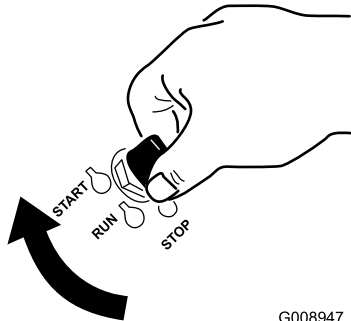

Figure 20
- Turn the ignition key to the Start position (Figure 20). When the engines starts, release the key.